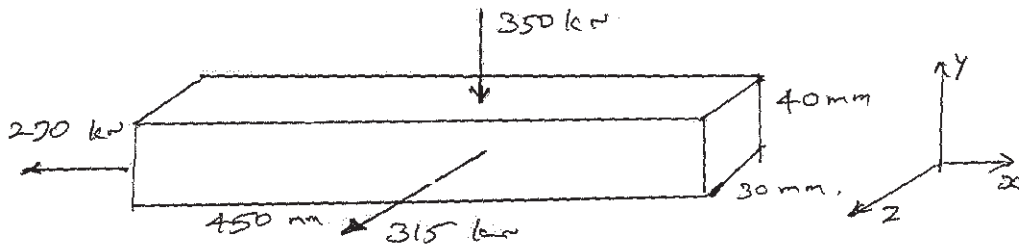

Fig. Q. 14. a.
14. a) i) A MS flat, $450 \text{ mm} \times 40 \text{ mm} \times 30 \text{ mm}$. shown in Fig.Q.14. a. is subjected to axial tensile and compressive forces. Find the change in dimension and the change in volume. Let, $E = 210 \text{ GN/m}^2$, $m = 3.03$. (10)